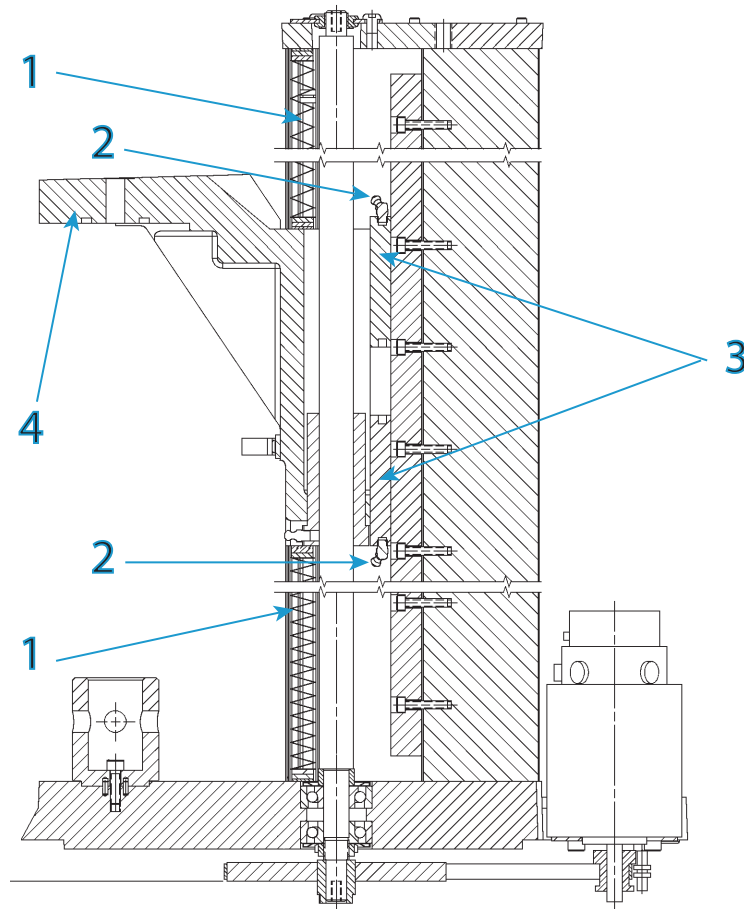

Figure 23. Linear guide carriages lubrication
Legend for Figure 23
1. Ensure that the power switch is in the Off (0) position and disconnect the power cable from the power source. Verify that no LEDs are illuminated on the indicator panel.
6. Detach the ballscrew covers from the crosshead and slide them away from the crosshead. Refer to Figure 23 on page 120 to locate the grease nipple on each carriage.